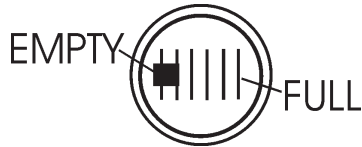

Figure 10. Fuel Gauge
1. Read the fuel gauge located on top of the generator (Figure 10) to determine if the fuel level is low.